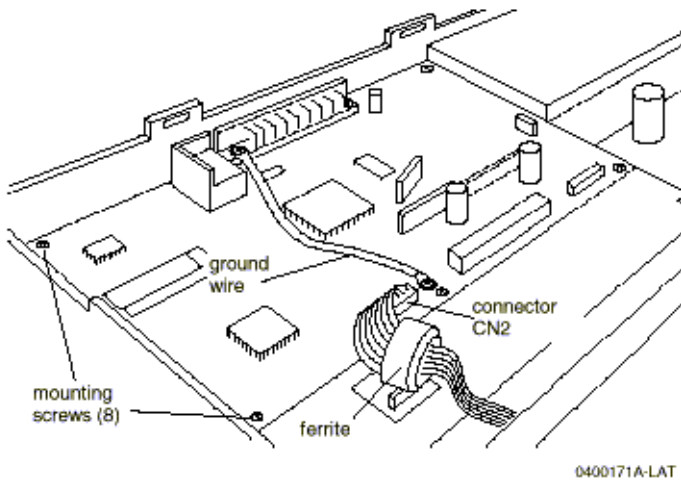

Figure 1. Main Control Board
8. Disconnect Main Control Board connector CN2 from the Main Control Board (Figure 1).
9. Remove the eight mounting screws and ground wire (Figure 1).
2. Reinstall the ground wire as per Figure 1.